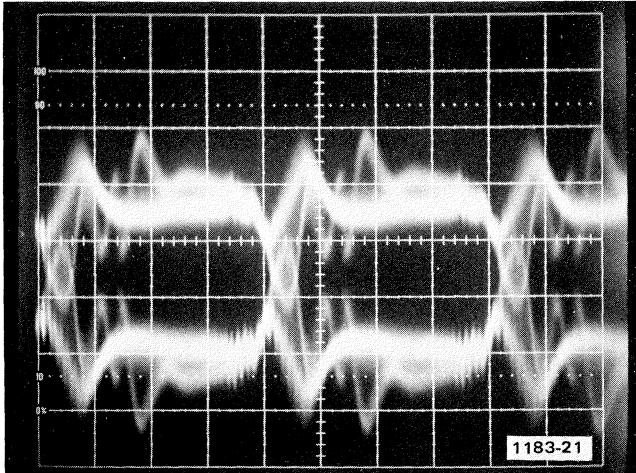

Fig. 4-16. Hard Copy Threshold Waveform; 0.2 V/division vertical, 0.5 V/division horizontal.
e. Press MAKE COPY and observe the oscilloscope display for a waveform as in Fig. 4-16. The channel 1 display (TP32) should be above the channel 2 display, and the written pulses should overlap for approximately 1/3 of the distance between the two traces. Ringing should remain well separated. (Trace separation will probably end up being between 0.4 and 0.8 V.)
f. Adjust Hard Copy Threshold (R35, Fig. 4-13) to obtain a display as in Fig. 4-16.